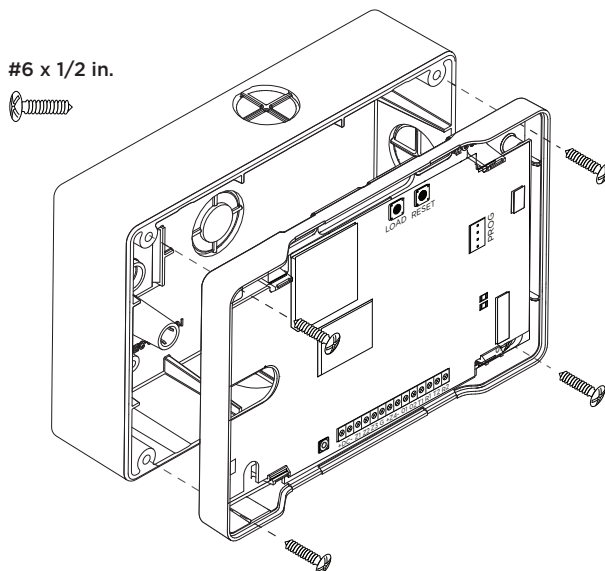

Figure 3: Mounting Devices
3. Mount compatible devices to the backbox with the included #6 X 1/2 in. screws. For more information, refer to Figure 3.